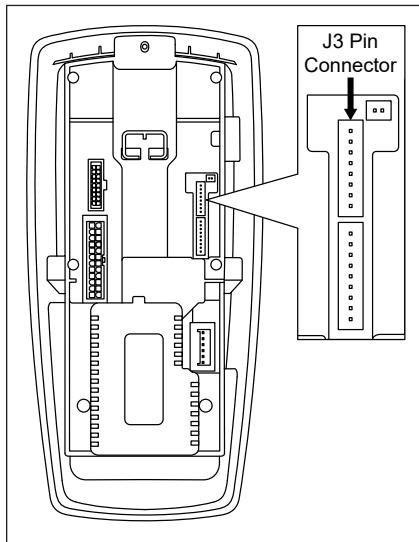

Figure 99 - Disconnect J3 Pin Connector
- 10 Disconnect the wire harness from the J3 pin connector on the back of the control assembly (see Figure 99 on the following page).
25 Connect the new wire harness to the J3 pin connector on the back of the control assembly (see Figure 99).